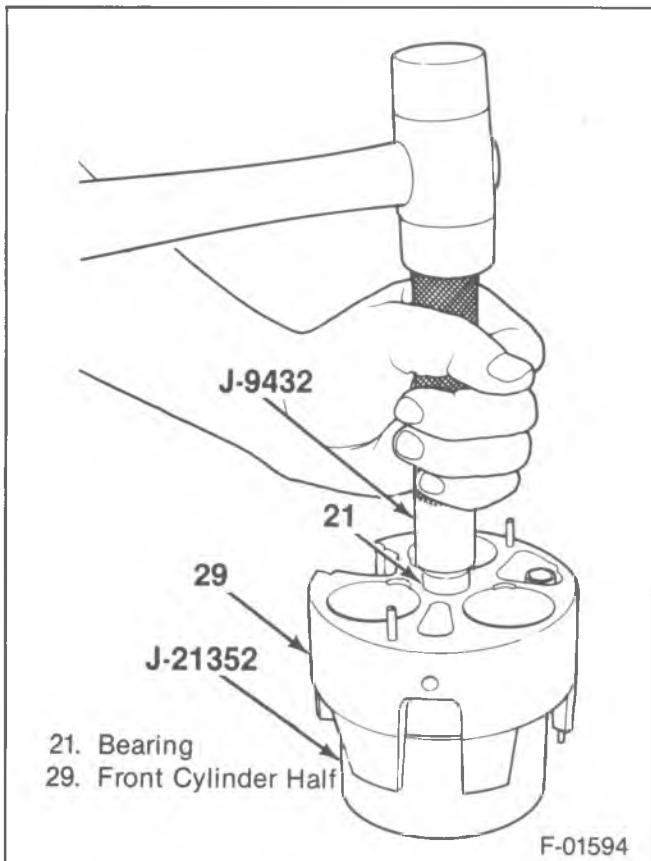
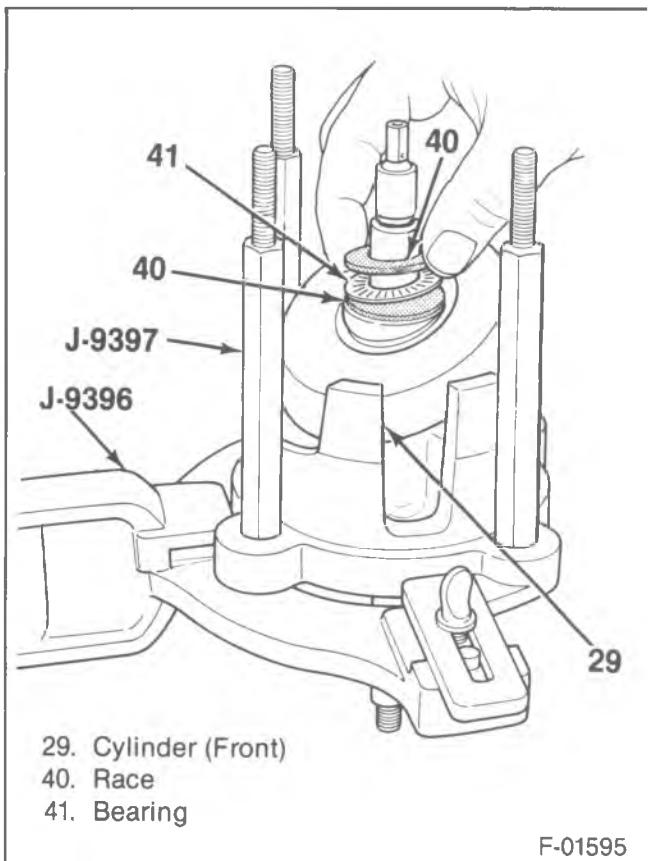
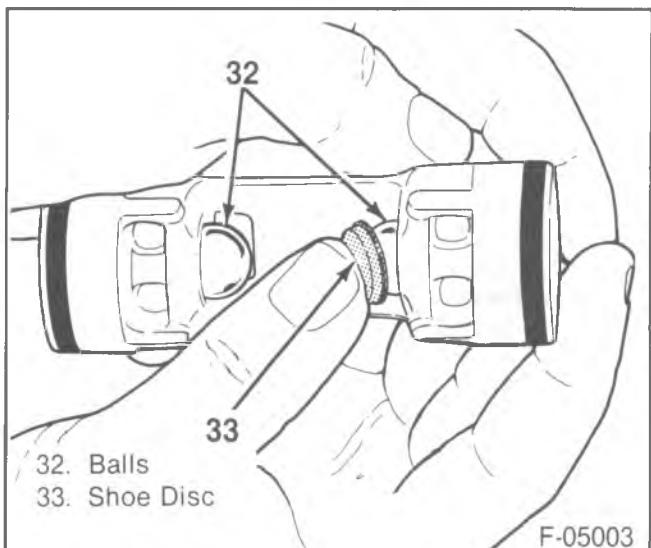

Figure 27—Installing the Needle Bearing
Figure 28—Installing the Rear Thrust Races and Bearing
Figure 29—Installing the Front Shoe Disc
Install or Connect (Figures 27 through 31)
1. Needle bearing (21) to the front cylinder (29) with J-9432 (figure 27).
- Support the cylinder half (29) on J-21352-A.
- Insert needle bearing (21).
- Insert J-9432 into the hub end (inner side) of the cylinder head (29) and drive the needle bearing into the cylinder.
- Remove cylinder half (29) from J-21352-A.
3. The front cylinder half (29) in J-9397 flat side down.
- The front cylinder half (29) has a long slot extending out from the shaft hole. The "legs" of the front cylinder half (29) will point upward.
4. "Zero" thrust race (27), thrust bearing (28) and "zero" thrust race (27) to the front end of the shaft (38) (figure 28).
- Lubricate the races (27) and the bearing (28) with petroleum jelly.
5. Threaded end of the shaft (39) through the needle bearing (21) in the front cylinder half (29) and allow the thrust race (27) and bearing (28) to rest on the hub of the cylinder.
6. Insert a thrust race on the rear end of the shaft (38) so that it rests on the hub of the axial plate.
7. Place the balls (32) into the sockets of number one piston (figure 29).